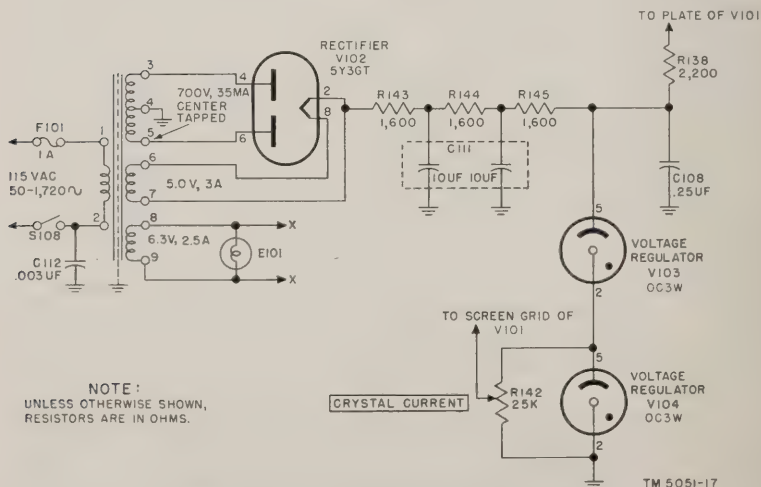
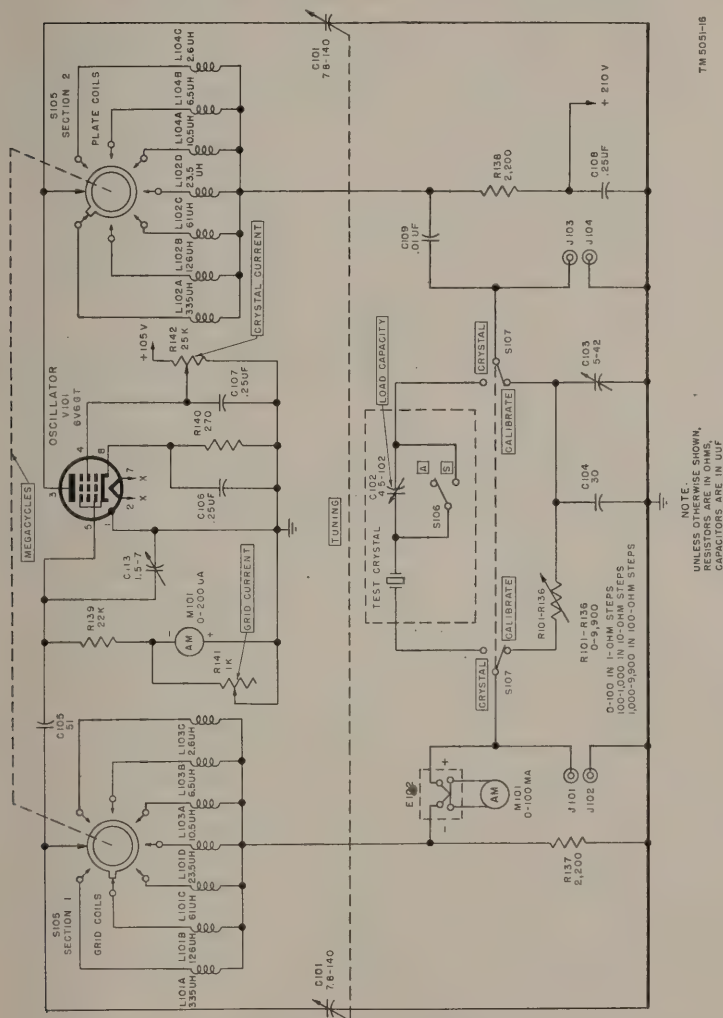

Figure 9. Power supply, schematic diagram.
Figure 10. Feedback and oscillator circuits.
Crystal Impedance Meter TS-330/TSM measures the equivalent circuit parameters of a piezoelectric crystal in the frequency range of 1.0 to 15.0 mc. The CI meter consists of a single r-f beam power oscillator, a feedback network (fig. 10), and a conventional power supply (fig. 9). The crystal under test or a dedade resistor can be made part of the feedback network. The magnitude of the oscillations of the tube is indicated by the GRID CURRENT meter.
- (1) The power supply (fig. 9) is a conventional type that converts 115 volts ac, 50 to 1,720 cps, to the regulated voltage necessary for the plate and screen grid of oscillator tube V101. The power supply uses rectifier tube 5Y3GT in a full-wave rectifier circuit and two tubes OC3W as voltage regulators. The tubes are shown as V102, V103, and V104. Fuse F101 rated at 1 ampere, 250 volts, opens the line if an overload or short inside the CI meter occurs. Power ON-OFF switch S108 breaks one side of the a-c line.
- (2) Transformer T101 has a primary rating of 115 volts ac, single-phase, with output windings on the secondary of 700 volts at 35 ma (milliamperes) center-tapped for the plates of V102, 5.0 volts at 3.0 amperes for the filament of V102, and 6.3 volts at 2.5 amperes for the filament of V101 (oscillator tube 6V6GT) and pilot lamp E101. The rectified voltage is taken off one side of the filament of tube V102 rectifier.
- (3) The rectified output of V102 is filtered free of ripples by resistors R143 and R144 and capacitors C111A and C111B (two sections). The filter is connected to a voltage dropping resistor R145 which, in turn, is connected to the voltage regulating tube V103. The tube V103, operating in conjunction with resistor R145, maintains the voltage across its terminals constant approximately at 105 volts, despite normal changes in line voltage and current drain of the connected circuits. Should the voltage across this gaseous regulator rise, the tube would draw more current; this causes a greater voltage drop across R145 and keeps the voltage at the plate (pin 5) of V103 constant. Should the line voltage drop because of outside causes, less current will be drawn by
- (4) Voltage regulators V103 and V104 are connected in series to maintain a sufficiently high d-c voltage for the plate of the oscillator tube V101. The screen grid of tube V101 is supplied with d-c voltage controlled by potentiometer R142 (CRYSTAL CURRENT control) connected across the voltage regulator tube V104. This screen grid voltage controls the amplitude of oscillations. Pilot lamp E101 is operated from the 6.3-volt winding of the secondary of transformer T101. The .003- $\mu$ f (microfarad) capacitor C112 bypasses r-f current from the input a-c power line to ground. The .25- $\mu$ f capacitor C108 prevents r-f currents of the plate circuit from flowing in the power supply circuit.